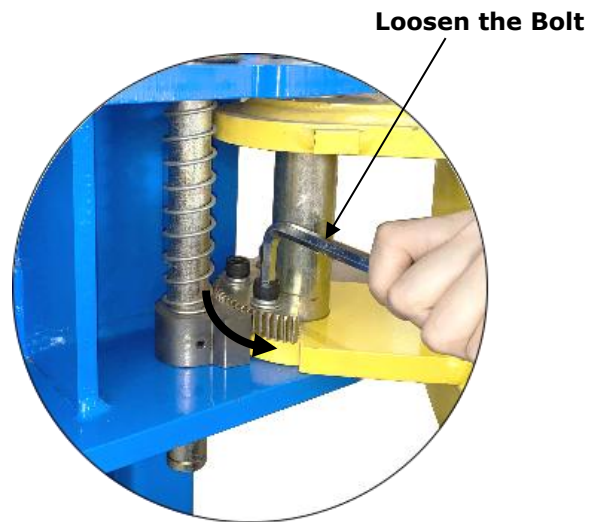

Fig. 38
2. Lowering the carriages down to the lowest position, then use the 8# socket head wrench to loosen the socket bolt (**See Fig. 38**).